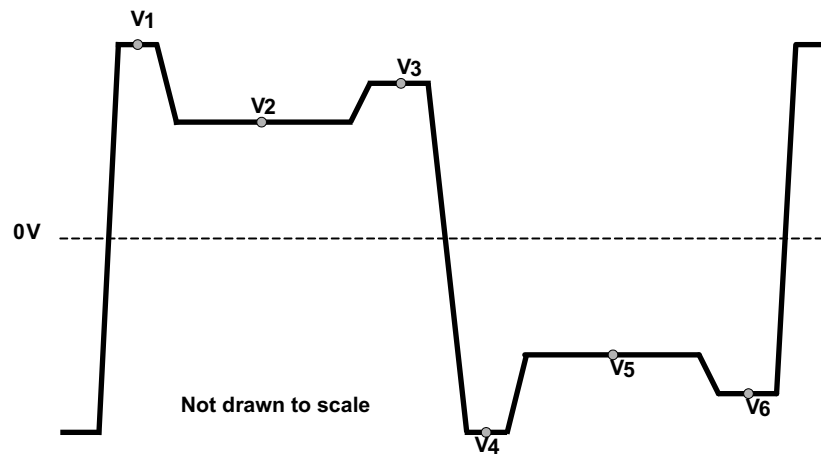
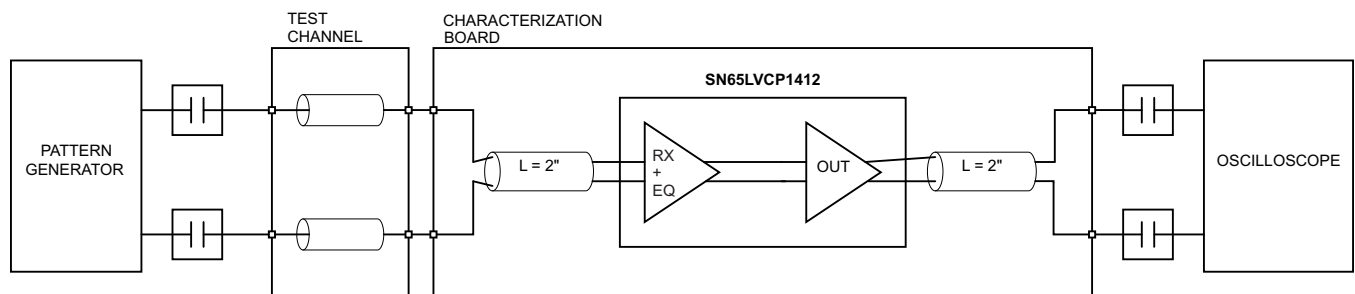
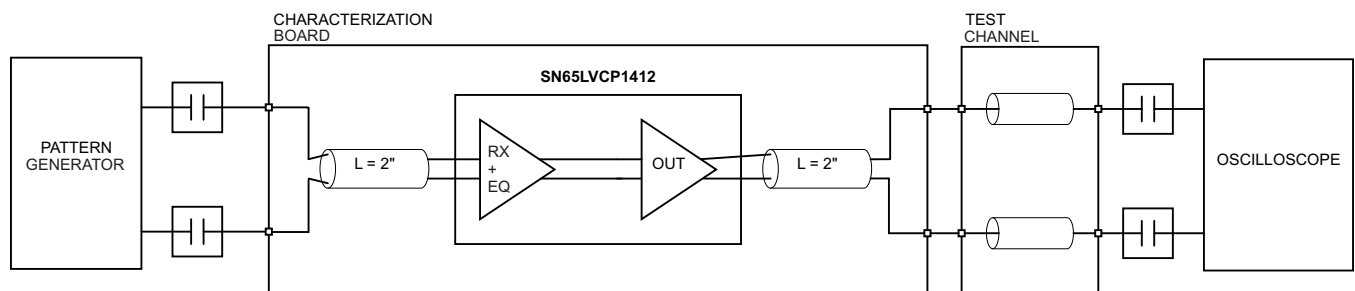

Figure 9. Vpre and Vpost (The test pattern is 1111111100000000 (8-1s, 8-0s))
Figure 10. Receive Side Performance Test Circuit
Figure 11. Transmit Side Performance Test Circuit
(2) Rise and Fall measurements include board and channel effects of the test environment, refer to Figure 10 and Figure 11
(3) t_{SK(O)} is the magnitude of the time difference between the channels.
(4) t_{SK(PP)} is the magnitude of the difference in propagation delay times between any specified terminals of two devices when both devices operate with the same supply voltages, at the same temperature, and have identical packages and test circuits.
(5) All noise sources added.
Regarding timing, the SN65LVCP1412 is I²C compatible. The typical timing is shown in Figure 9 and a complete data transfer is shown in Figure 10. Parameters for Figure 9 are defined in Table 3.